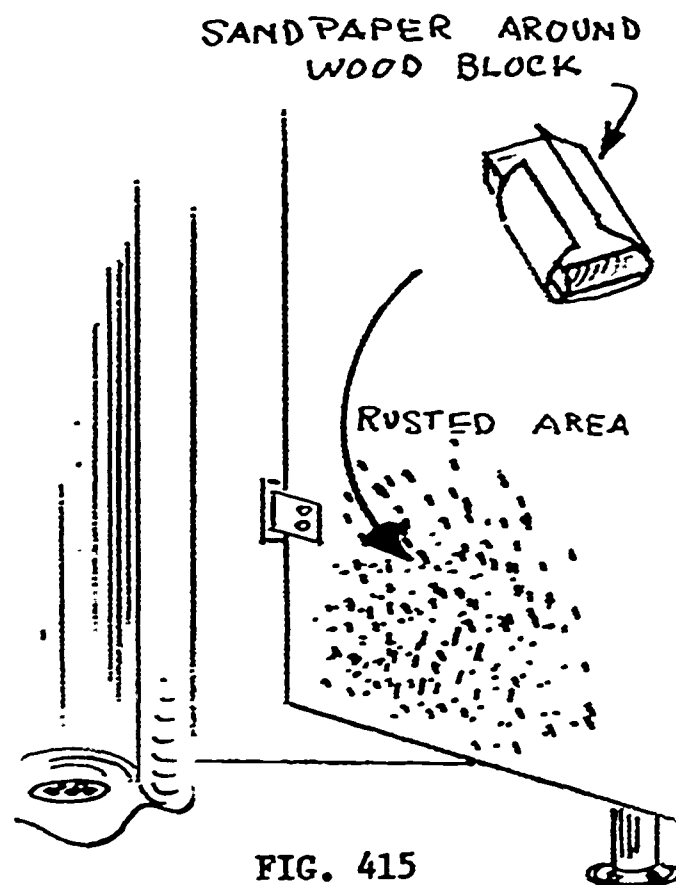

FIG. 415
2. Scrape stubborn scale until there is no question that the paint that is left is securely bonded. See figure 415.